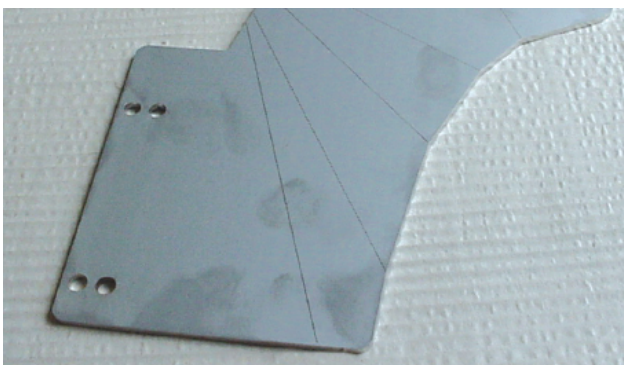

Fig. 6.12
- Engraving sheet metal parts can simplify subsequent machining. Consider engraving setting lines for products that are difficult to edge. (Fig. 6.12)